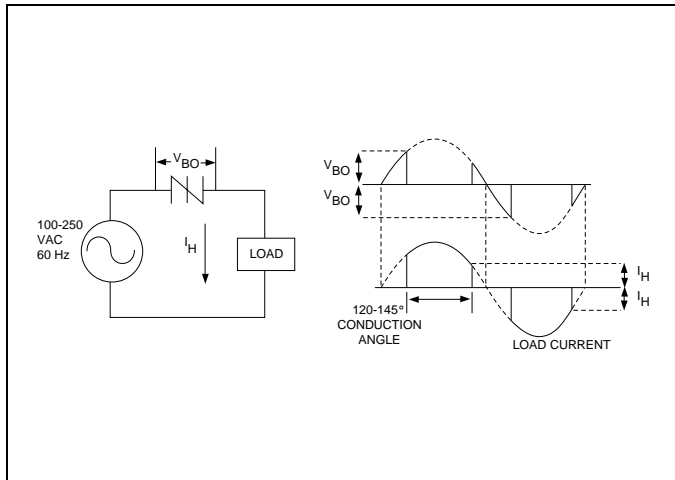

Figure 9.14 Basic Sidac Circuit
- See Figure 9.14 for clarification of Sidac operation.